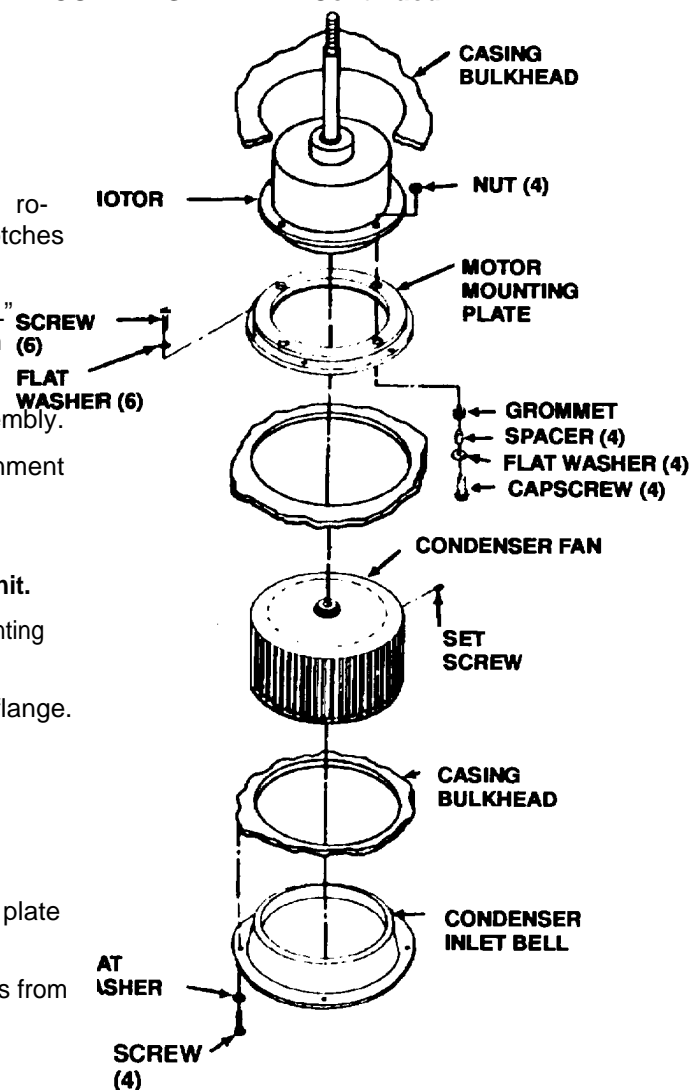

Figure 4-71. Evaporator and Condenser Fan Motor (B2) and Condenser Fan
- e. Installation. (See Figure 4-71.)